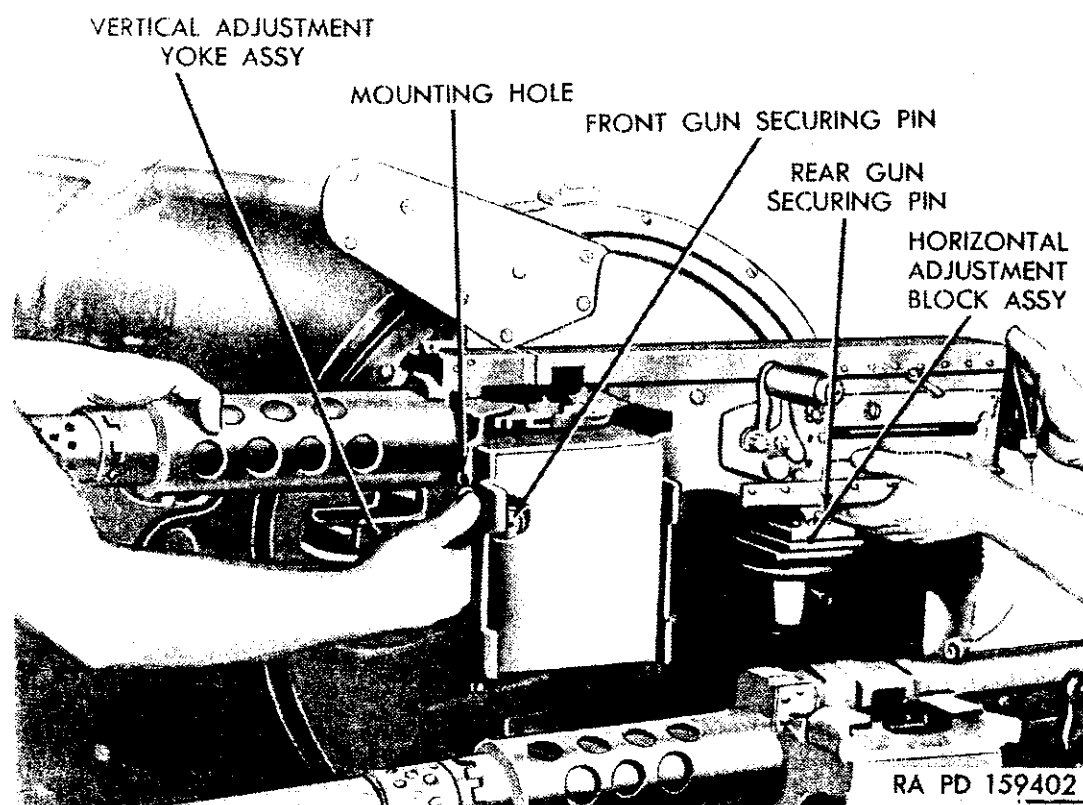

Figure 90. Cal. 50 Browning machine gun M2 mounted on mount M15.
- (1) Lift the gun and place it over the horizontal adjustment block and vertical adjustment yoke, with the retracting slide outward and the rear gun securing pin on the under side of the gun receiver in front of the horizontal adjustment block.
- (2) With one man holding the barrel support of the gun (do not hold by the barrel) above and clear of the vertical adjustment yoke assembly, ease the gun backward until the rear gun securing pin drops to the level of the horizontal slot in the horizontal adjustment block assembly (fig. 90).
- (3) With the rear securing pin engaged in the slot, move the gun forward and down until the hole in the forward end of the receiver lines up with the holes in the yoke.
- (4) Using a twisting motion, insert the front gun securing pin through the holes in the yoke and gun receiver until it is engaged in the hole in the opposite side of the yoke. Allow gun securing pin latch to enter the slot just behind the knurled head of the front gun securing pin.
- (5) Adjust head space and timing (par. 11, C2, 1 Nov. 1950, FM 23-65).